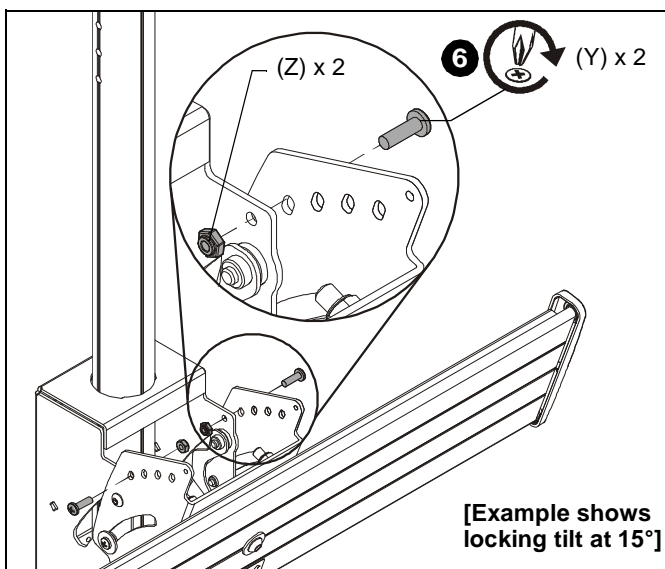

Figure 12
6. If using the tilt settings of 0°, 5°, 10° or 15°, insert two 10-24 x 1/2" Phillips head screws (Y) and two 10-24 lock nuts (Z) to lock mount at the specific tilt. (See Figure 12)